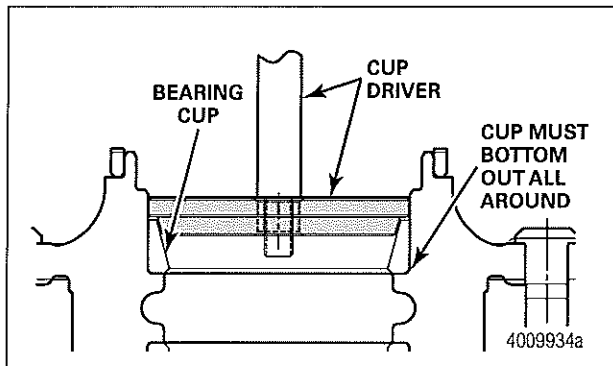

Figure 10
7. Insert the bearing cups into the hub and using the correct bearing cup driver, Euclid part number E-6040 or O.T.C part number 7180, drive the cup fully home to make sure the cup is seated squarely against the hub shoulder. Figure 10.